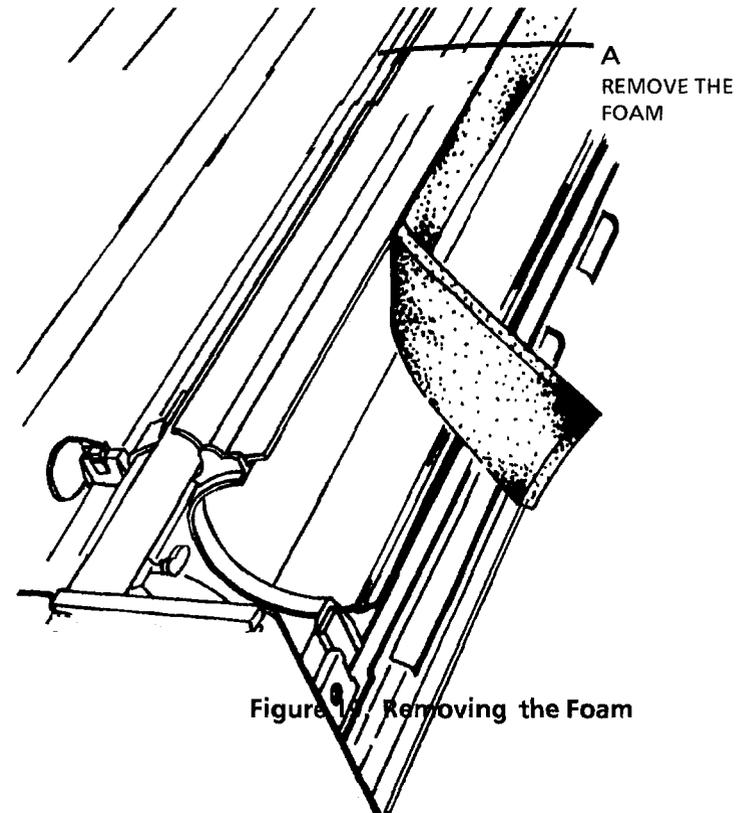

Figure 19. Removing the Foam
32. (FIGURE 19): REMOVE THE FOAM INSIDE THE DEVELOPER HOUSING.